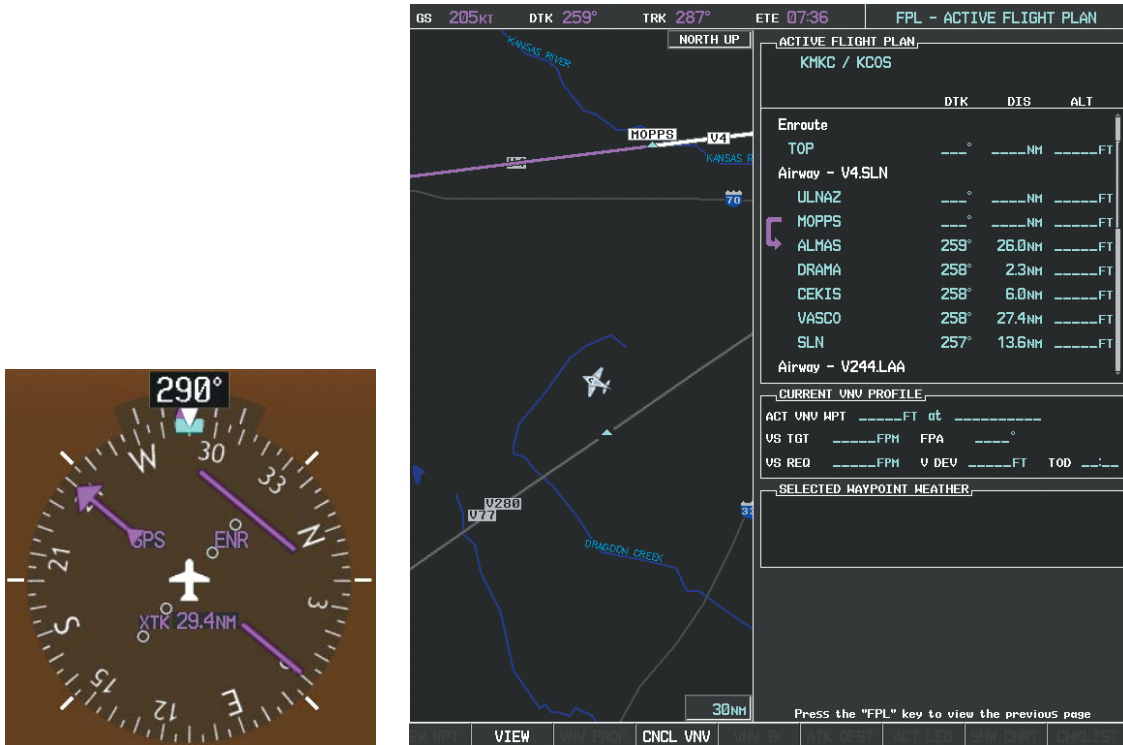

Figure 5-116 V4 Now Active Leg
- d) Verify the displayed leg is the desired leg and press the **ENT** Key. Note in Figure 5-116, the magenta arrow in the flight plan window and magenta line on the map indicating V4 is now the active flight plan leg.